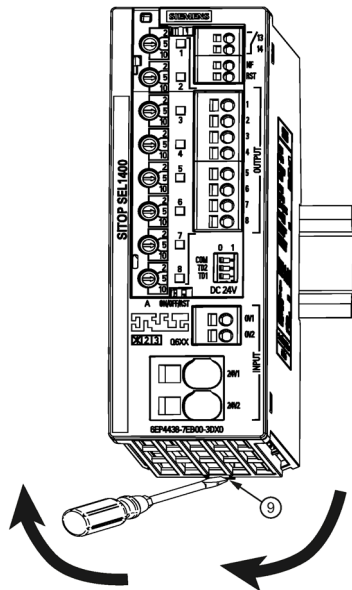

Figure 3-1 Mounting-removal
To remove, pull up the slider ⑨ using a screwdriver (see Figure 3-1 Mounting-removal (Page 29)) and disengage the device at the bottom edge of the standard mounting rail. Then you can remove the device from the upper edge of the standard mounting rail.